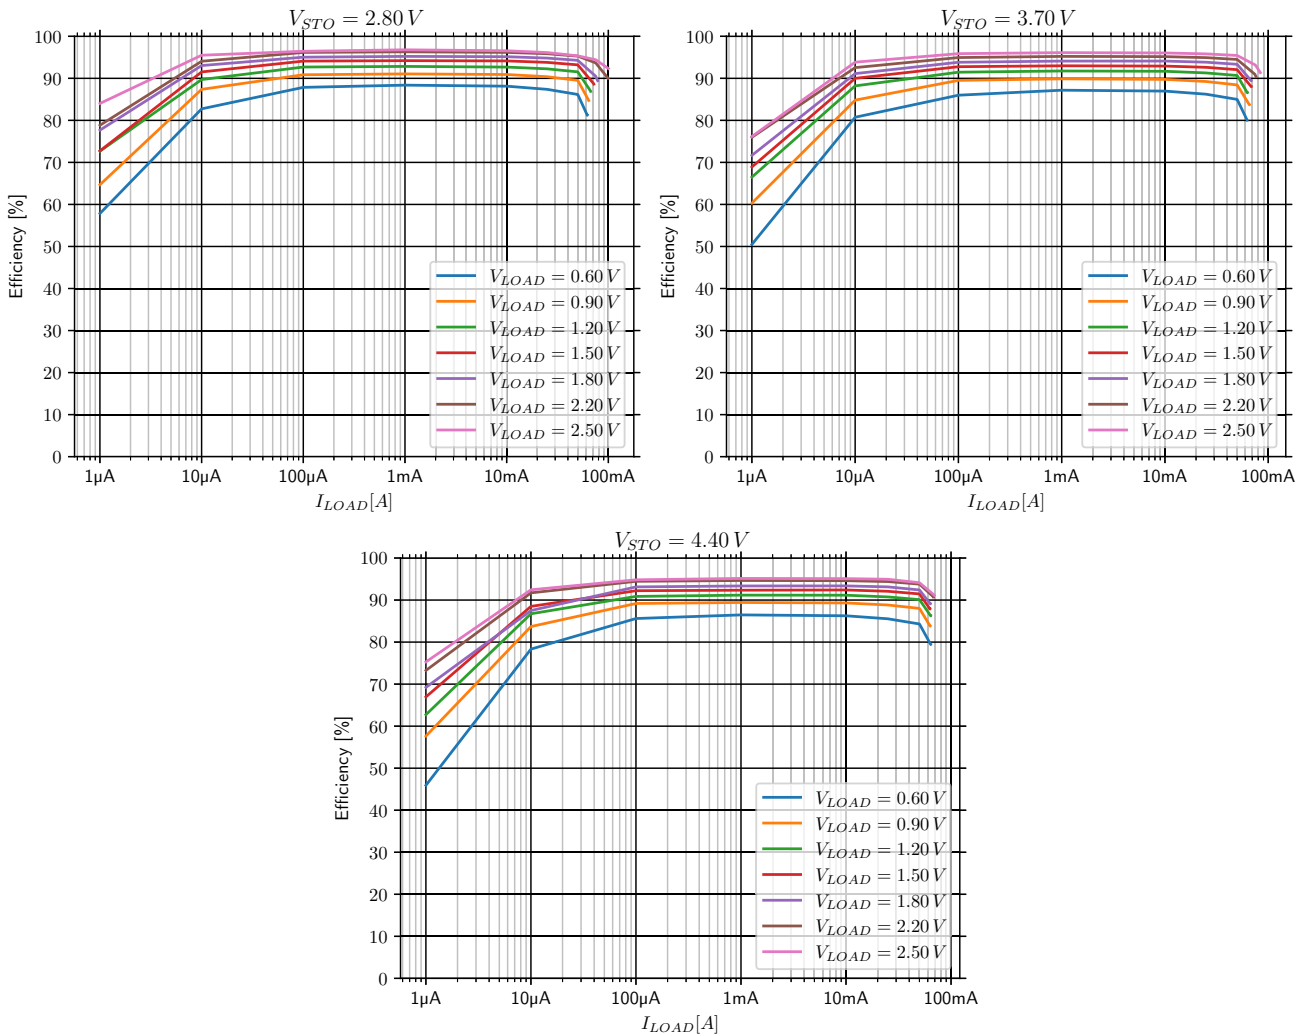

Figure 19: Buck (LOAD) converter efficiency with  $L_{BUCK} = 10 \mu\text{H}$  (Coilcraft LPS4018-103MRB),  $BUCKCFG.TMULT = 0x01$  (x2)
Figure 19 efficiency is shown with the AEM13920 boost-related quiescent current subtracted from the current provided on **STO**:
- This quiescent current is measured with the boost converter in **SLEEP STATE** and with the buck converter switched off, so that the current that is necessary to run the buck converter is considered in Figure 19 data.